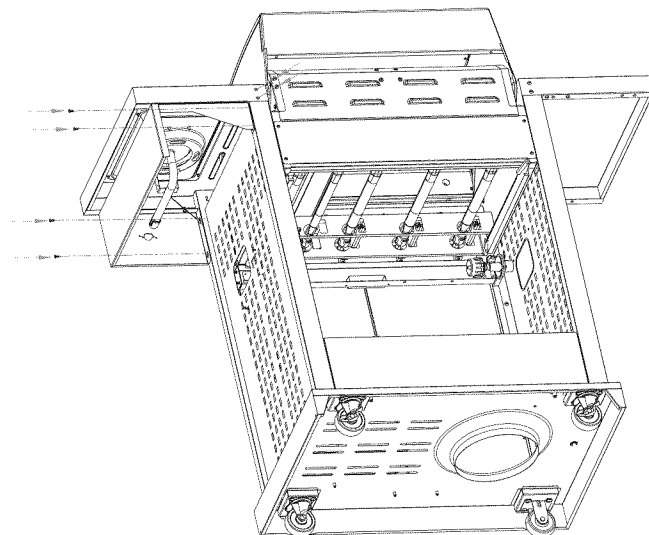

Fig. 10c
- Attach right shelf to the right-side panel from outside to inside of firebox with four (4) M5 x 10 screws as shown in **Fig. 10c**.
- Attach shelf from the back to the right-side panel with two (2) M5 x 10 screws as shown in **Fig. 10c**.